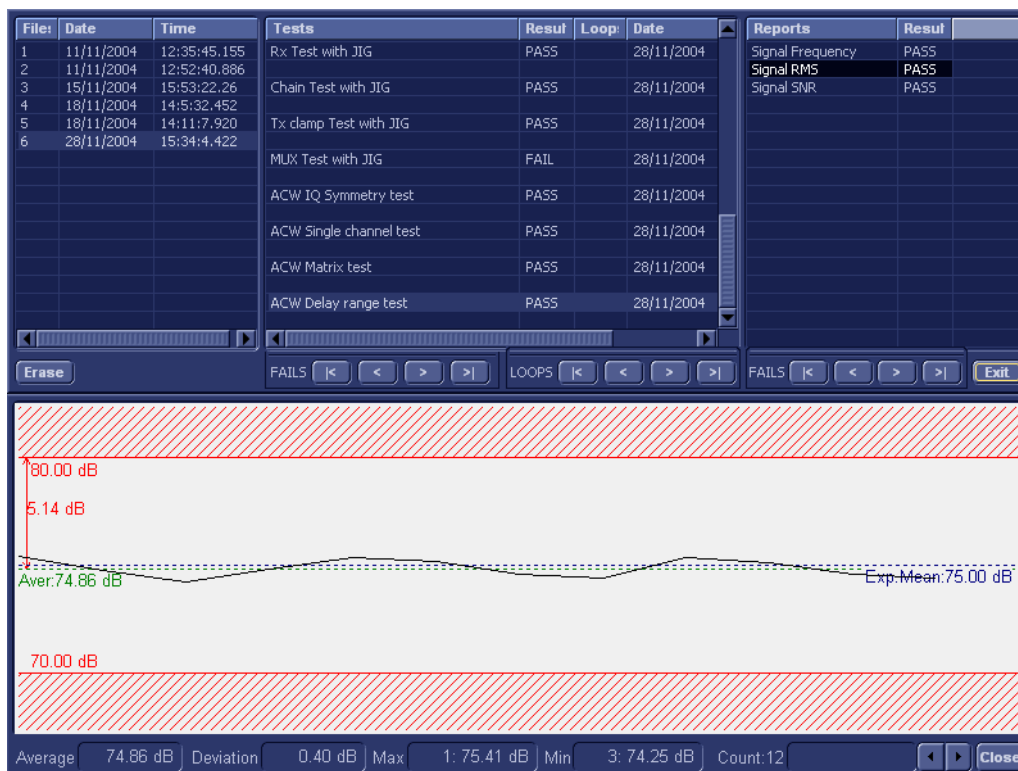

Figure 7-43 View Test Log - ACW Delay Range Test - Signal RMS
- 8) Select the second report (*Signal RMS*); the report is highlighted in the *Reports* list, and the corresponding results are shown in the Report window below, as shown in Figure 7-43.